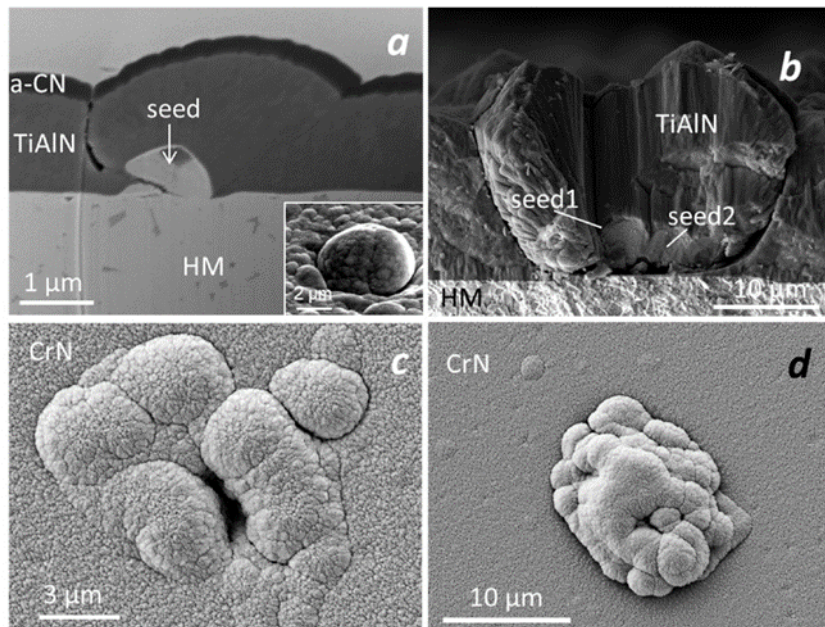

Figure 4[a]
- [b] A small beaker made of Polyurethane (PU) plastic need to be coated with uniform thin layer of Nickel to make it water proof. Two alternatives for coating the beaker are electroplating and electroless plating. Judge the suitability of the processes and justify which one should be used.
4. [a] Figure 4[a] shows the seed growth defects in thin films prepared by PVD techniques.